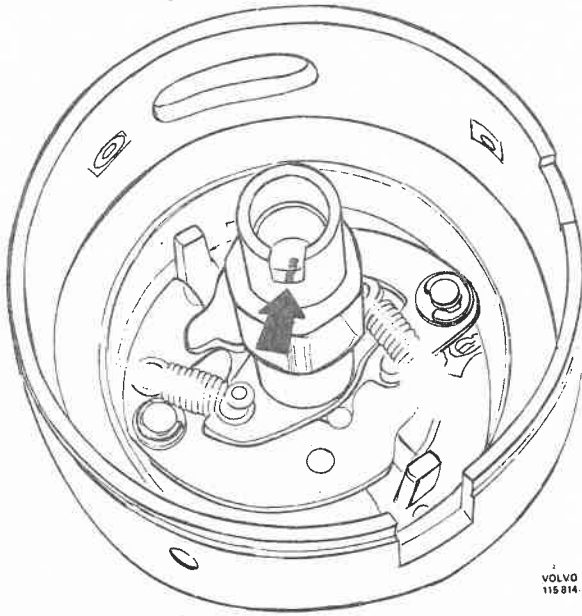

Fig. 34-12. Line-up marking the breaker cam and distributor shaft
4. Disconnect the springs for the centrifugal governor. Remove the lubricating felt and mark how the breaker cam is located in relation to the distributor shaft, Fig. 34-12.